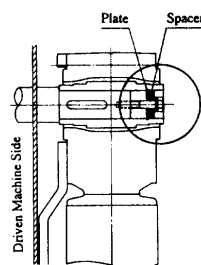

Fig. 5 Fixed by spacer and plate
* Method to avoid Drive from slipping away from a driven machine (Fig. 5~7)